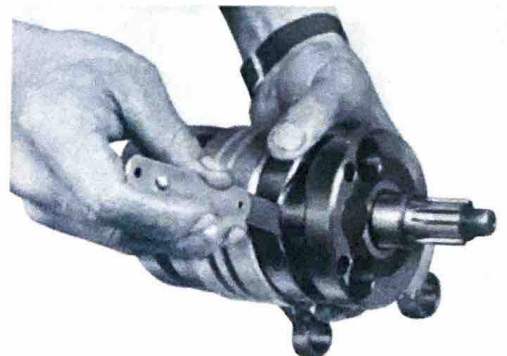

Fig. 4-17-23
- 2) Checking the Connecting Rod for Large End Side Play. (Fig. 4-17-23)